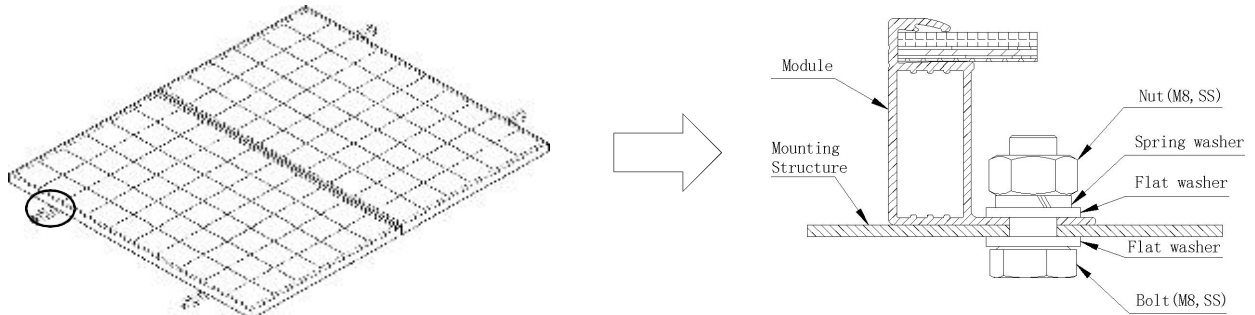

Figure 5 Mounting holes
- Mounting hole system: Use the corrosion-resistant M8 bolt, for fixing with the installation support through the installation hole in the side frame of the module, as shown in Fig. 5.